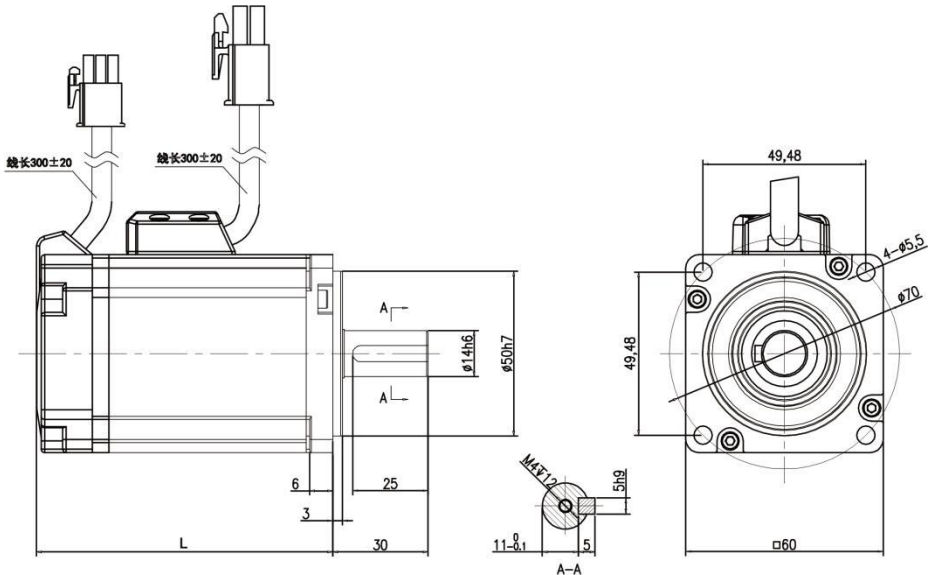

Figure 3.2 60 Motors and Table 3-1
- Installation dimensions of 60-frame motor (see Figure 3.2 and Table 3-1)